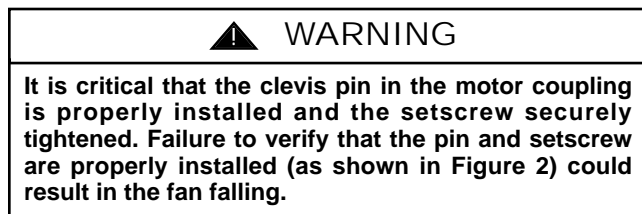

Figure 2
2. Loosen setscrew in motor coupling if necessary. Separate, untwist and unkink the three 80" motor leads. Route the motor lead wires through the downrod. Align the clevis pin holes in the downrod with the holes in the motor coupling. Install the clevis pin and secure with the hairpin clip (Figure 2). The clevis pin must go through the holes in the motor coupling and the holes in the downrod. Be sure to push the straight leg of the hairpin clip through the hole near the end of the clevis pin until the curved portion of the hairpin clip snaps around the clevis pin. The hairpin clip must be properly installed to prevent the clevis pin from working loose. Pull on the downrod to make sure the clevis pin is properly installed.